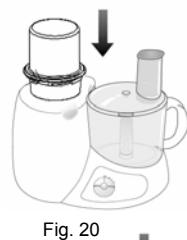

Fig. 20
4. Insert the coffee grinder into the blender opening. (Fig. 20)